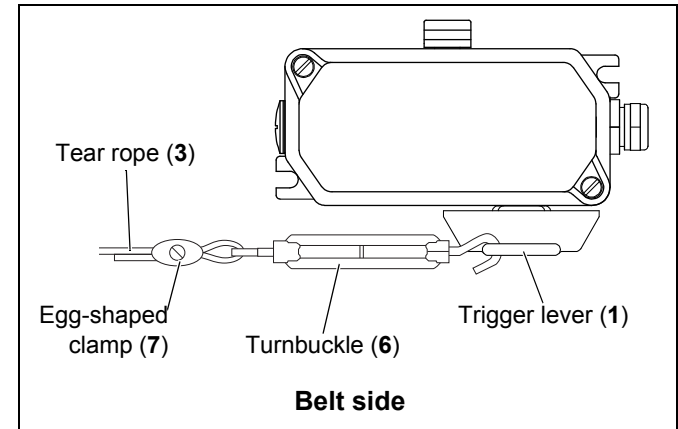

Fig. 5-6: Attaching the turnbuckle
6. Use an egg-shaped clamp (7) to attach the tear rope (3) to the tension spring (4) (see fig. 5-6).
7. Fix the eyebolts (8) to the conveyor structure to guide the pull wire (3).